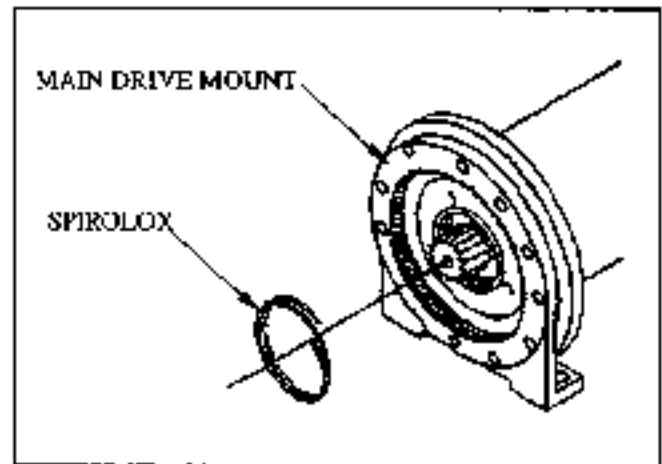

Figure 31
9. Install the main drive mount onto the drum hub. Install the spirolox retaining ring. See Figure 31.